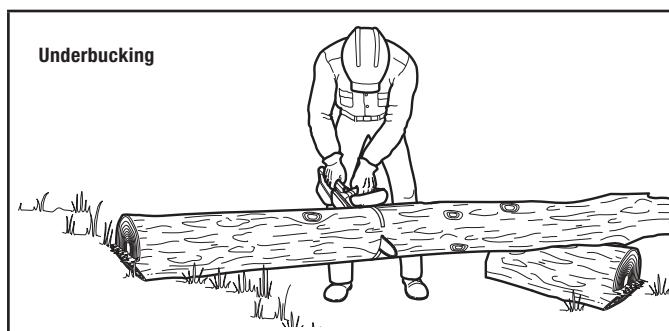

Figure 19
1. Begin cutting from below, with the top of the saw chain against the bottom of the log (Fig. 19).